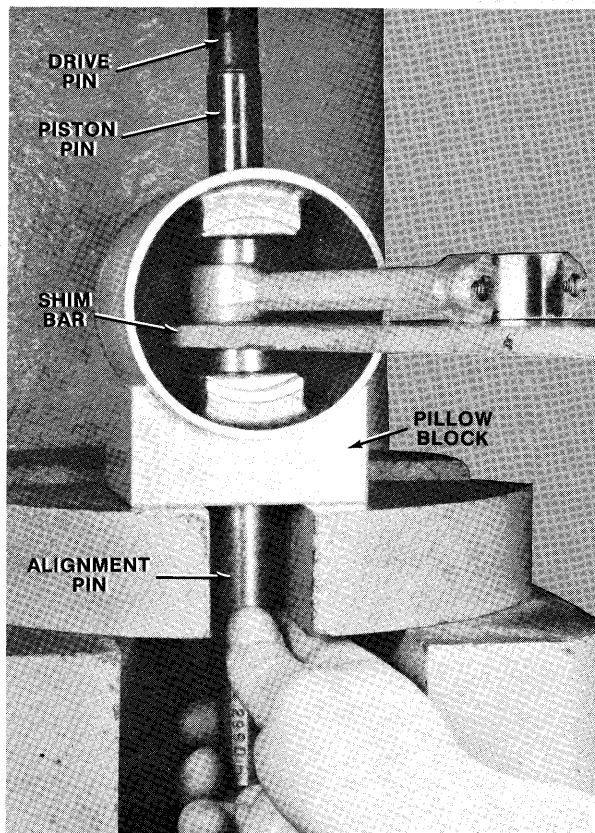
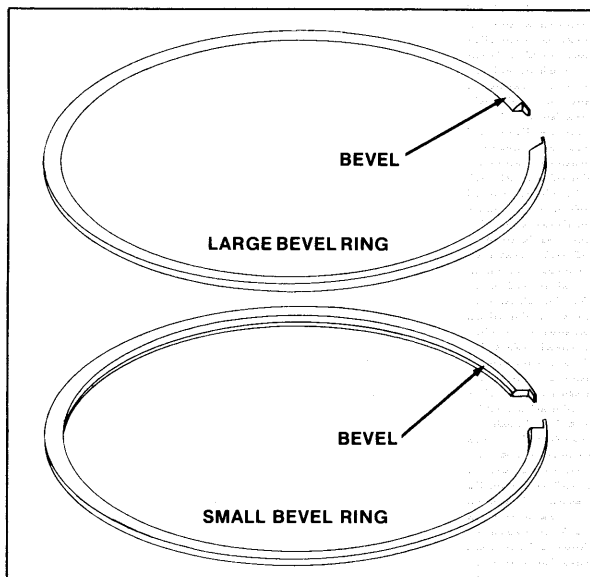

Figure 16—Installing Piston Pin
Figure 17—Bevel on Piston Ring
- I. Place above assembly on pillow block. Install piston pin on bore of piston. Install driver pin with stepped end in end of piston pin. Press piston pin in bore of piston while holding alignment tool as shown in figure 16. Press piston pin until it is centered in piston.
J. If a new piston pin needle bearings were installed, apply a liberal amount of motor oil on them. Connecting rod must slide easily between clearance of the two (2) spacers.
K. Install piston rings on piston with bevel on piston ring positioned up as shown in figure 17.